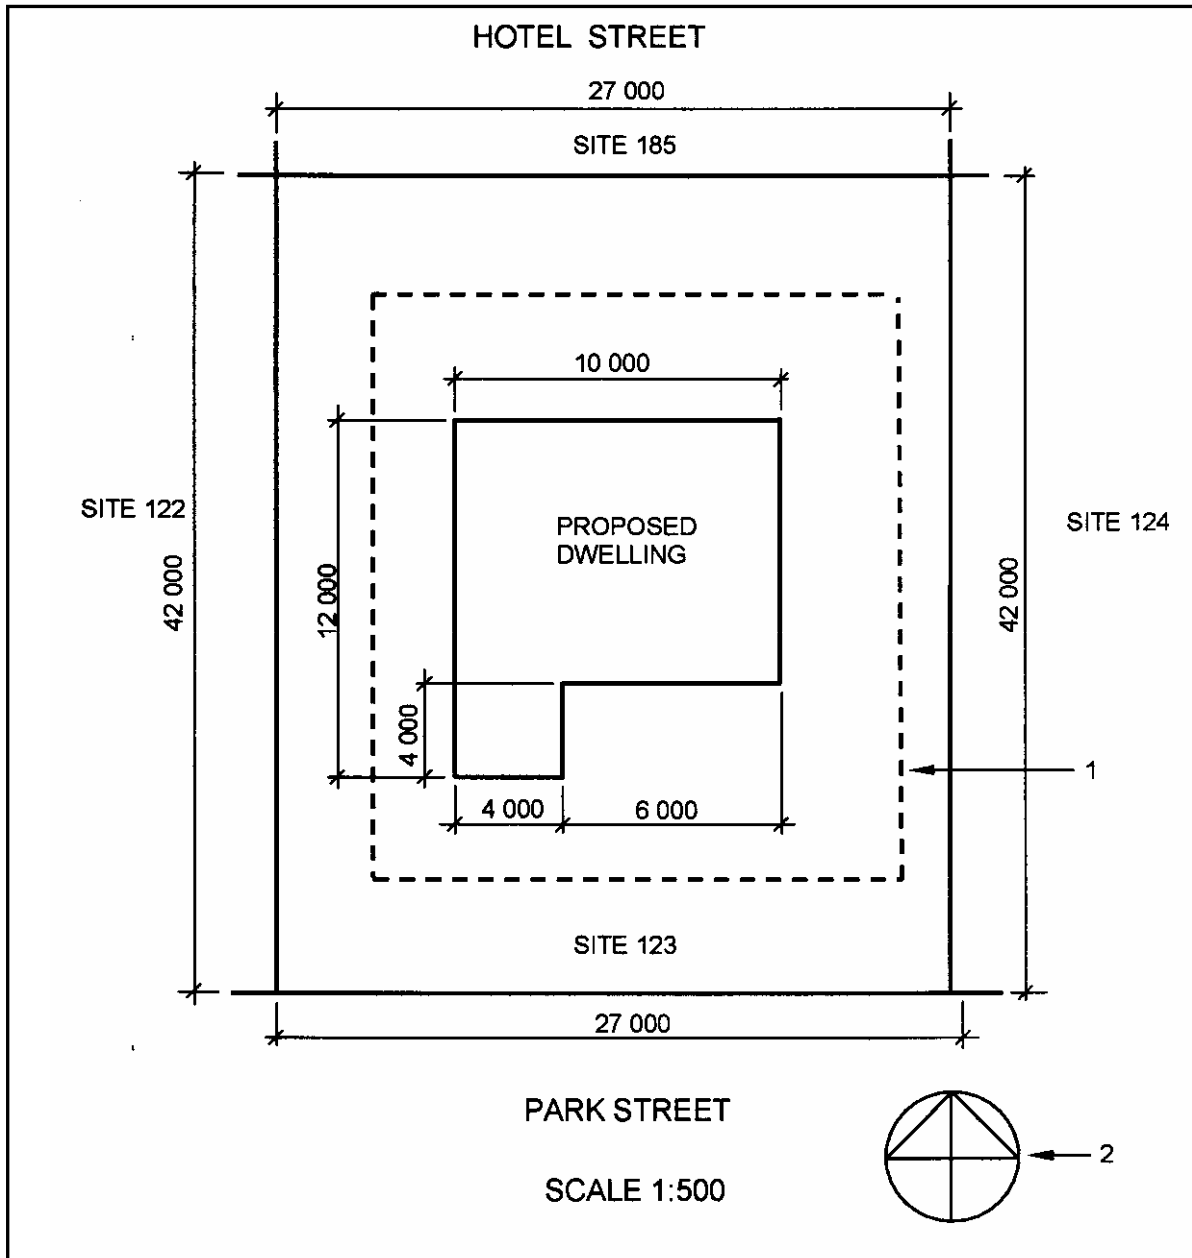

FIGURE 6.1
6.1 FIGURE 6.1 below illustrates the site plan of a proposed dwelling. Analyse the drawing and complete the table on ANSWER SHEET 6.1.